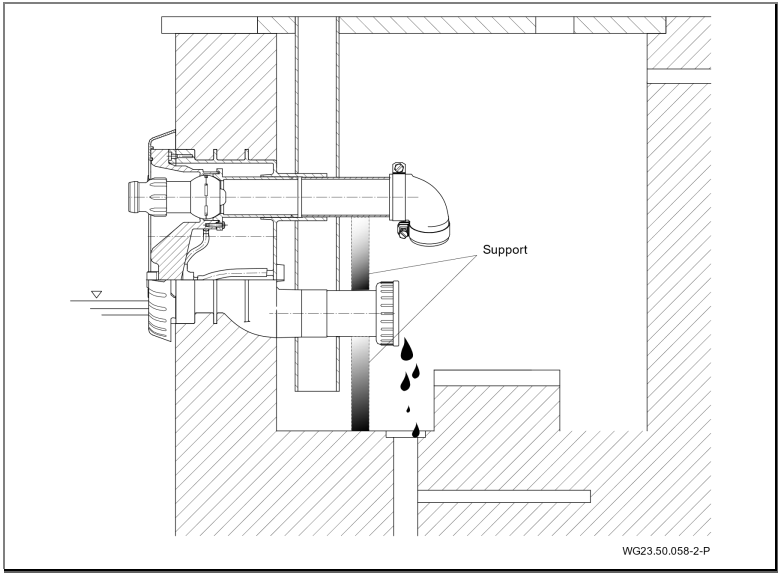

Fig. 22
- 3. Support the suction and pressure lines to relieve them. See "Fig. 22" on page 40.